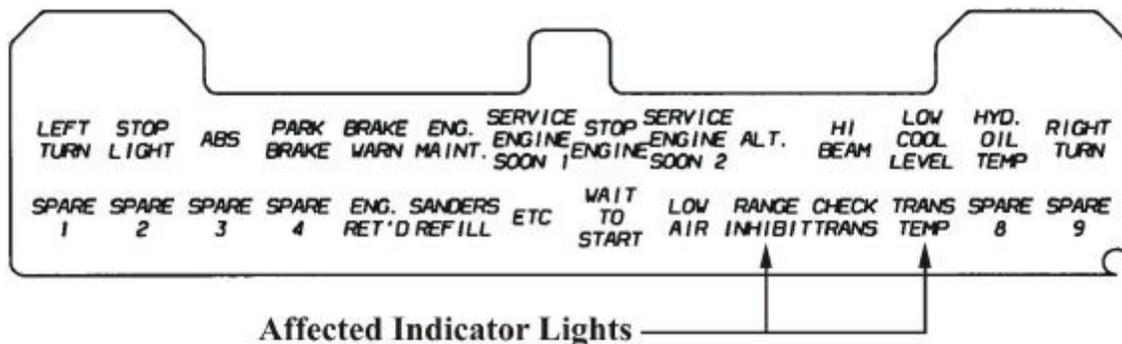

FIGURE 1
3. You must first verify that the Allison 2000 Series transmission electronics (ECU) is sending a signal to the dash indicator lights by turning ignition on and off and seeing that the "TRANS TEMP" dash indicator light comes on for a few seconds and then goes off. The "RANGE INHIBIT" indicator light should not come on **AT THIS TIME**. The indicator lights are located on bottom of dash to right of center of dash. See Figure 1 below.